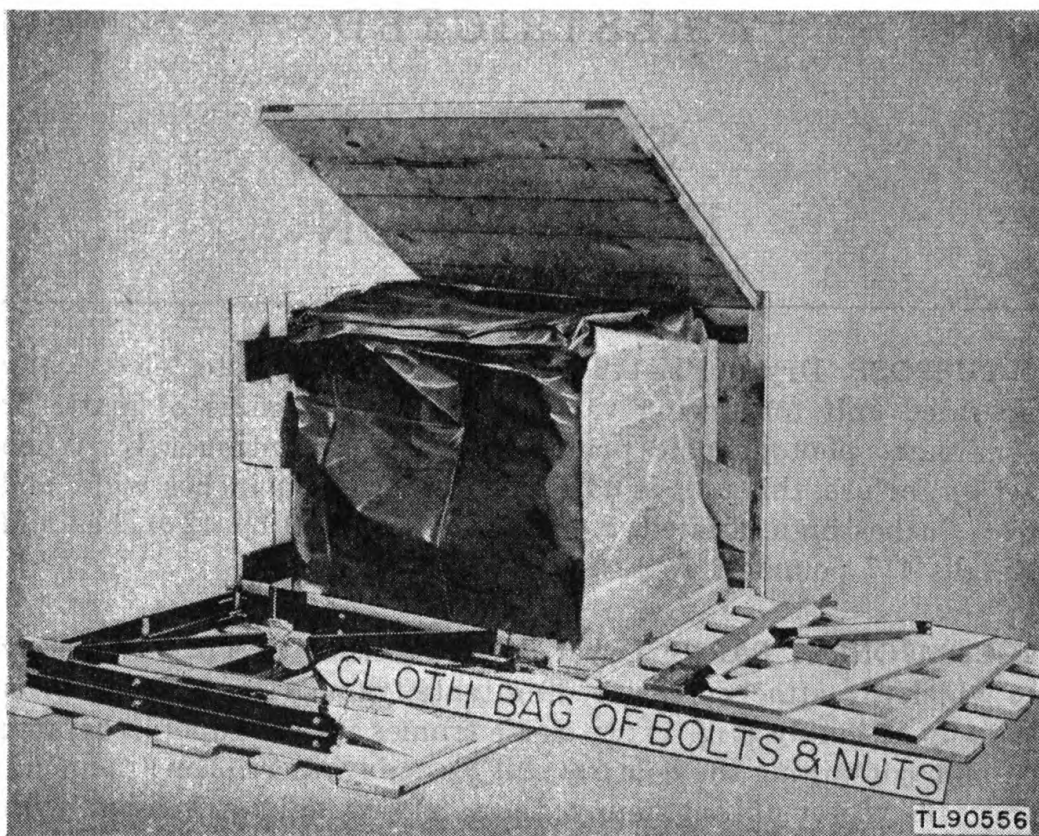

Figure 2. Method of unpacking.
b. The packaging when the dryer is first received contains moisture-proof paper with bags of silica gel attached to absorb excess moisture. If the dryer is carefully unpacked, these same wrappings may be used for a later shipment (fig. 2).
a. **Unpacking.** Remove the sides of the crate and all the parts which are bolted to the sides (fig. 2). Great care must be exercised to sort out all the small parts carefully and not lose them during unpacking. The superstructure, including the apron, drum, side frames, and connected parts, is sealed in the moistureproof bag and crated in an assembled condition. Bolts and spacers used in packing are not used in the assembly of the machine.